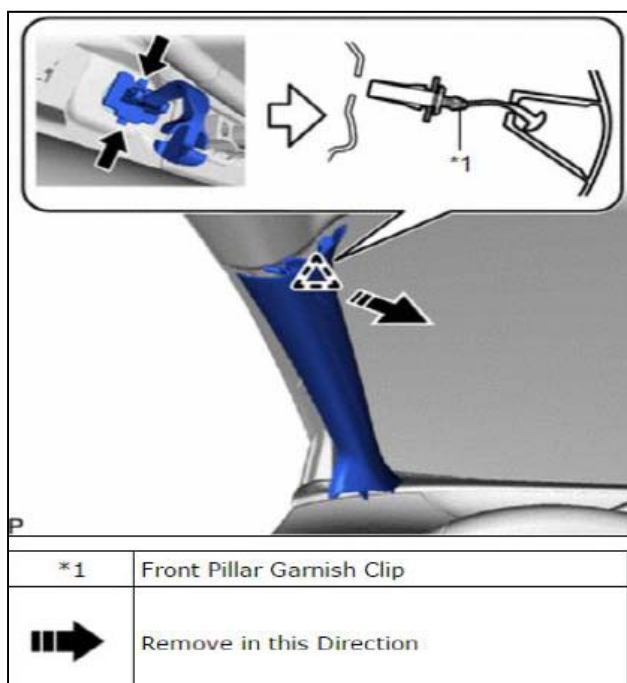

Figure 13
- c. While pushing the tabs of the front pillar garnish clip as shown in Figure 13, disengage it.